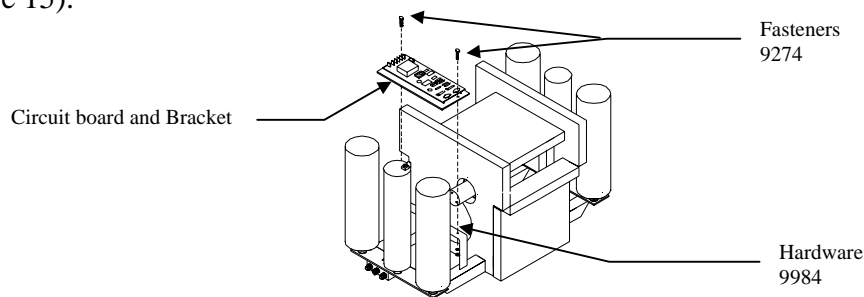

Figure 15
- Remove the hardware that mounts the circuit board and bracket to the mount bracket (Figure 15).